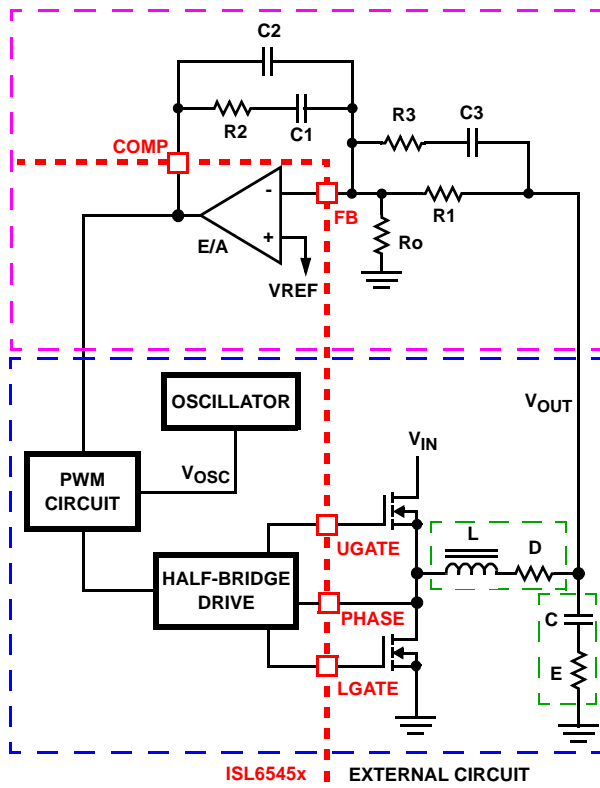

FIGURE 9. VOLTAGE-MODE BUCK CONVERTER COMPENSATION DESIGN
This section highlights the design consideration for a voltage-mode controller requiring external compensation. To address a broad range of applications, a type-3 feedback network is recommended, as shown in the top part of Figure 9.
Figure 9 also highlights the voltage-mode control loop for a synchronous-rectified buck converter, applicable to the ISL6545x circuit. The output voltage ( $V_{OUT}$ ) is regulated to the reference voltage,  $V_{REF}$ . The error amplifier output (COMP pin voltage) is compared with the oscillator (OSC) modified sawtooth wave to provide a pulse-width modulated wave with an amplitude of  $V_{IN}$  at the PHASE node. The PWM wave is smoothed by the output filter (L and C). The output filter capacitor bank's equivalent series resistance is represented by the series resistor E.
The compensation network consists of the error amplifier (internal to the ISL6545x) and the external R1-R3, C1-C3 components. The goal of the compensation network is to provide a closed loop transfer function with high 0dB crossing frequency ( $F_0$ ; typically 0.1 to 0.3 of  $F_{SW}$ ) and adequate phase margin (better than 45°). Phase margin is the difference between the closed loop phase at  $F_{0dB}$  and 180°. The equations that follow relate the compensation network's poles, zeros and gain to the components (R1, R2, R3, C1, C2, and C3) in Figure 9. Use the following guidelines for locating the poles and zeros of the compensation network:
1. Select a value for R1 (1kΩ to 5kΩ, typically). Calculate value for R2 for desired converter bandwidth ( $F_0$ ). If setting the output voltage via an offset resistor connected to the FB pin, Ro in Figure 9, the design procedure can be followed as presented.